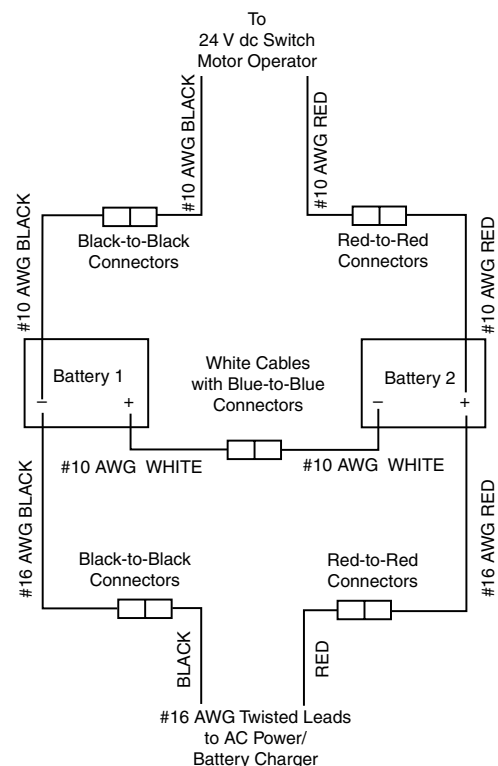

Figure 22.
7. Connect control batteries using the following procedure (Refer to Figure 22) :